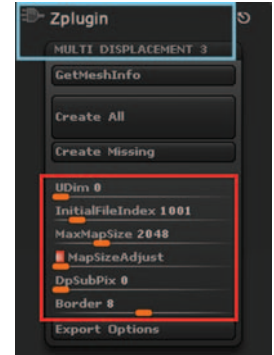

Figure 11.43 MD3 rollout (blue) and settings area (red).
8. With the Zplugin rollout docked (right) click on the words “MULTI DISPLACEMENT 3” (MD3) to expand the rollout. Figure 11.43 shows the MD3 rollout (blue) and the MD3 settings area (red).